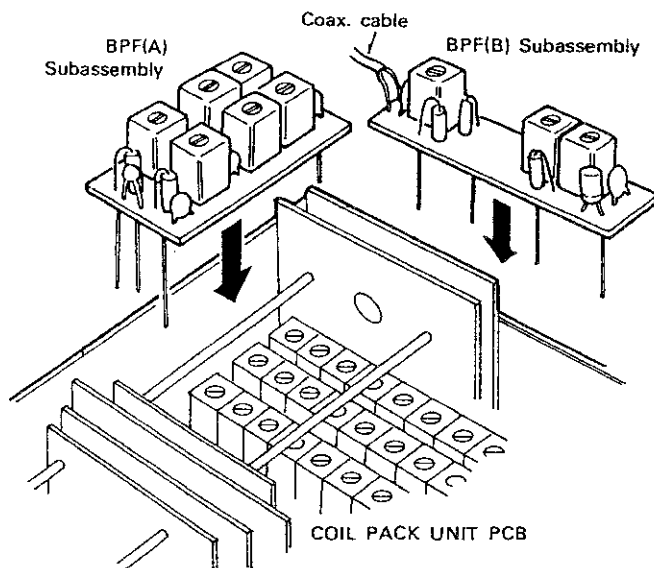

Fig. 10
- Desolder the coax and ground which is connected to J5 position on the Coilpack. Reconnect this to the BPF subassembly B. The small hole is center conductor, the large hole is for ground braid. See **Fig. 10**.